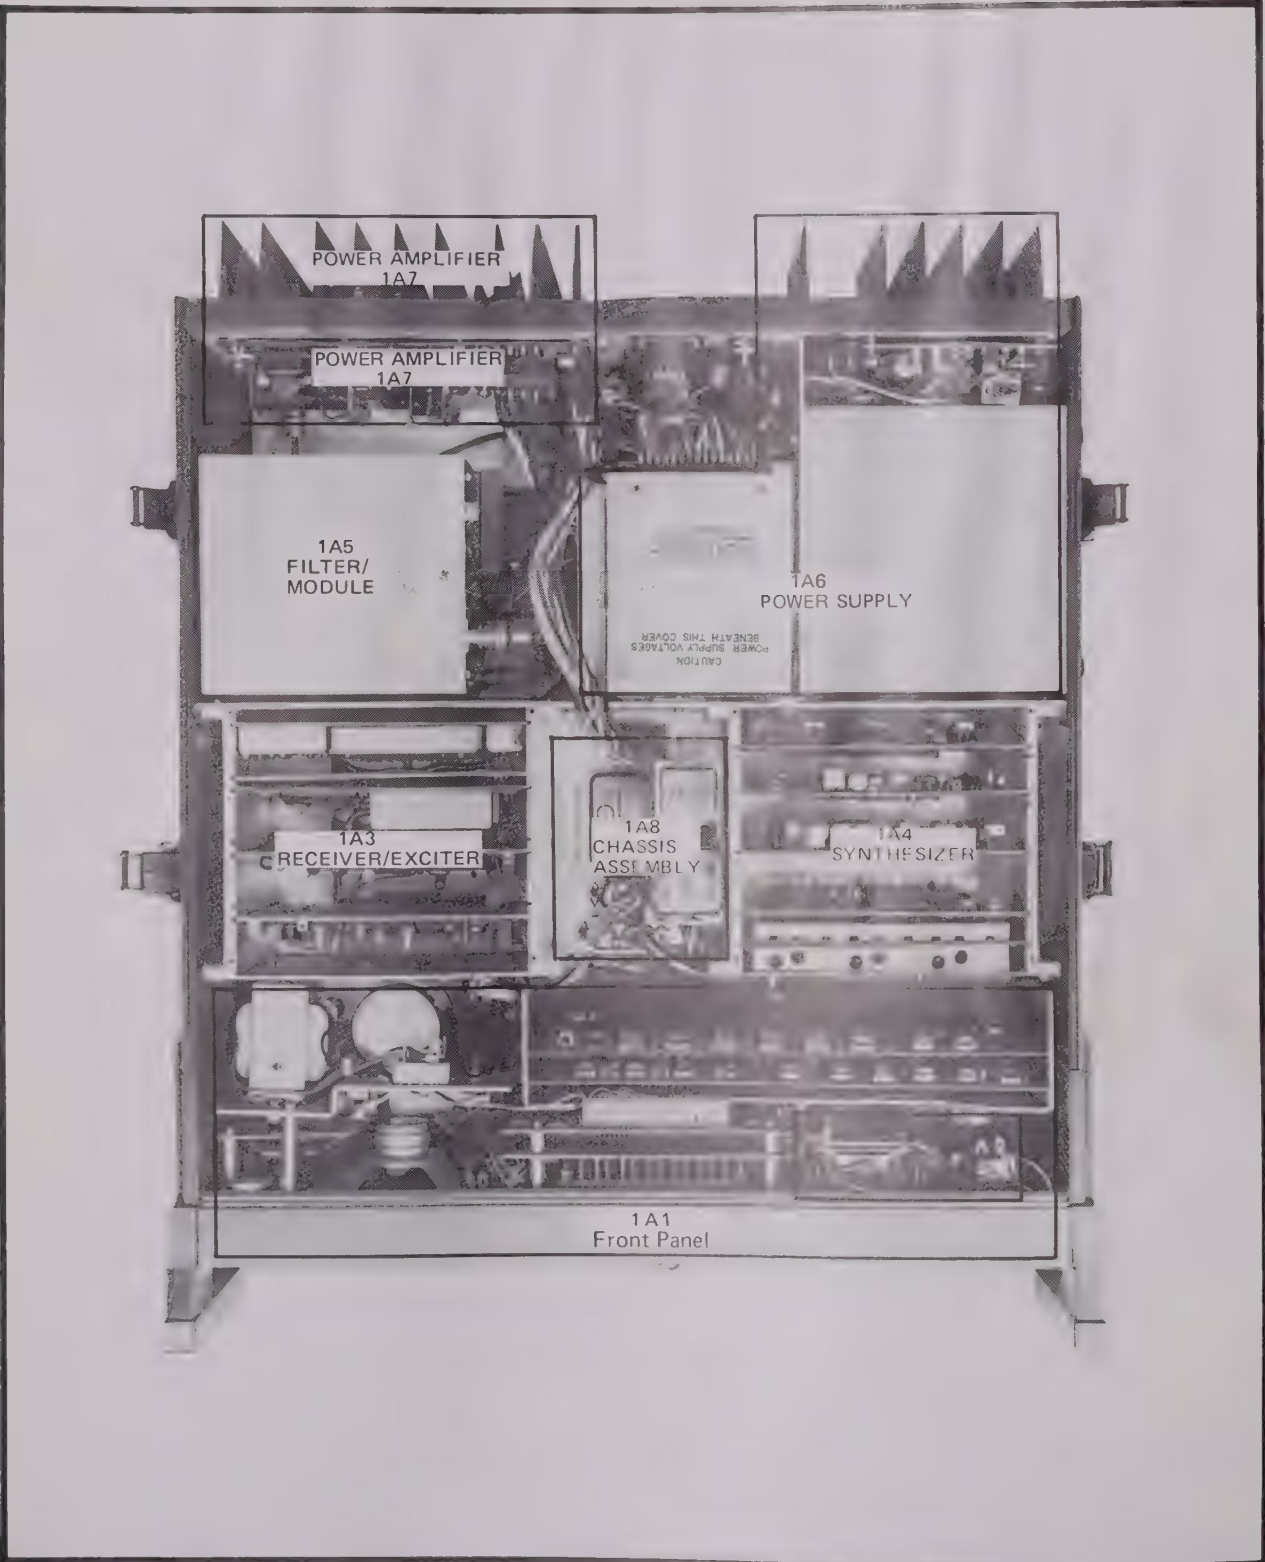

Figure 1.1 GSB-900SC Major Assembly Locations
The GSB-900SC is composed of seven major sub-assemblies, (1) front panel 1A1, (2) antenna coupler control panel 1A2 (optional), (3) receiver/exciter 1A3, (4) synthesizer 1A4, (5) filter module 1A5, (6) power supply 1A6, (7) power amplifier 1A7. See Figure 1.1 for major assembly location.